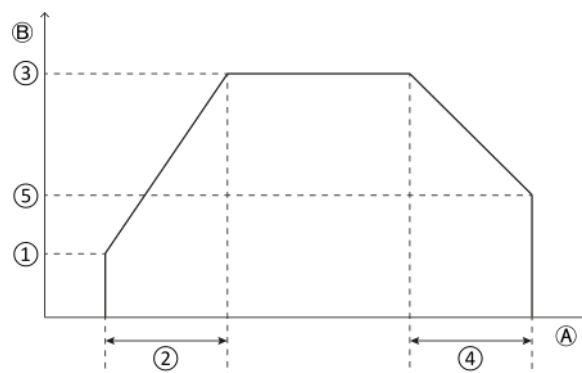

Figure 11.6: Terminology in laser output power ramping
**further parameters** are illustrated in figure 11.6 on page 169 . Please note that all power values on this tab are relative to the power value set in the laser device. The power values of the ramps will be output in 1 ms steps.
Legend of figure 11.6 on page 169 : (A) Time in milliseconds or Length in millimeters, (B) Percentage of laser output power, (1) Start power factor, (2) Rise time or Rise length, (3) Power factor, (4) Fall time or Fall length, (5) End power factor